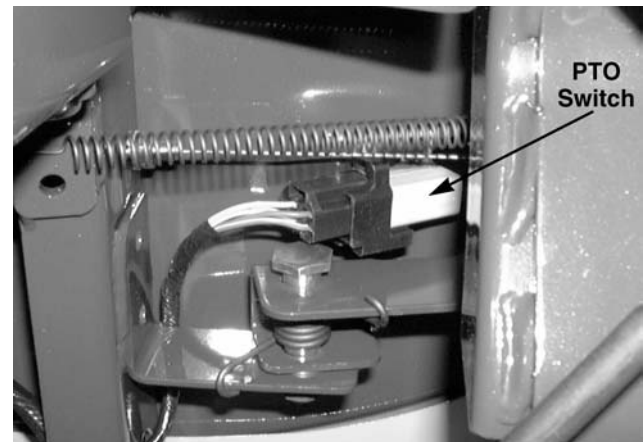

Figure 8-82.
29. Identify the **NC** (normally closed) terminals of the PTO switch. See Figure 8-82.